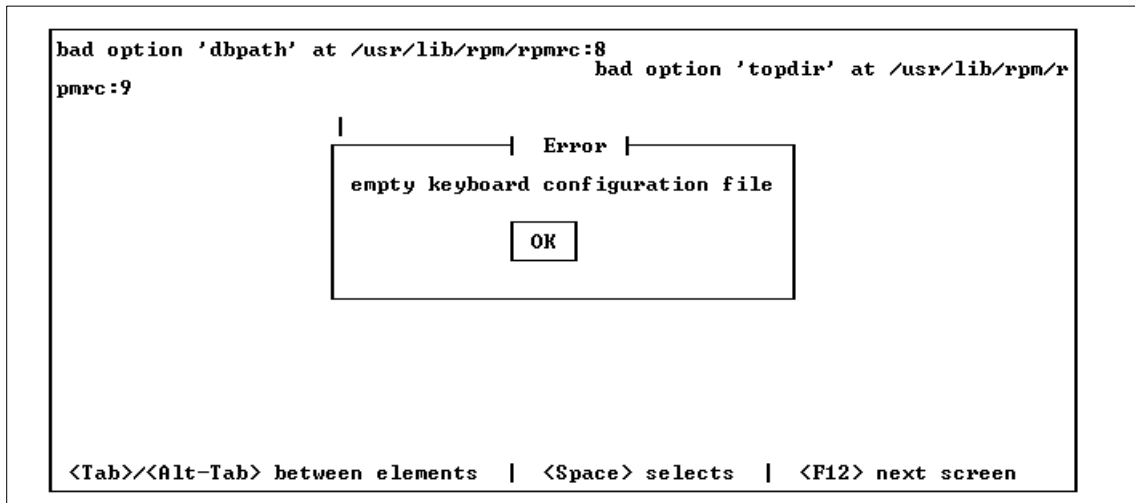

Figure 30. Empty Keyboard Configuration File Error Message
9. During a test installation, the error messages in Figure 30 were shown, but the installation continued without interruption.